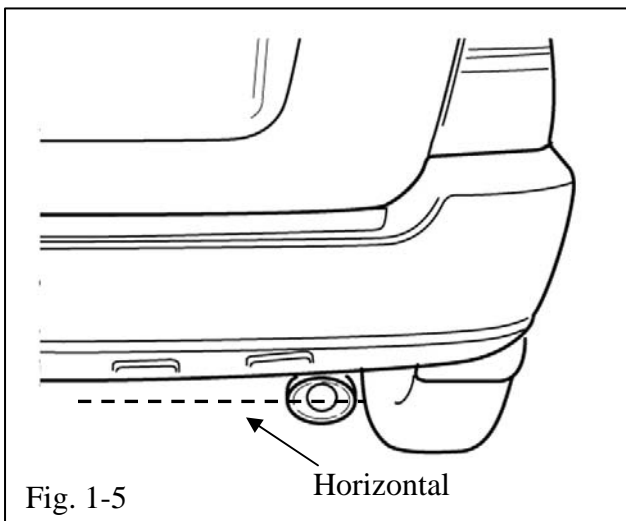

Fig. 1-5
- (f) Once the tip is positioned correctly and the alignment seems accurate, tighten the clamp nut making sure the clamp remains in the proper position. (Fig.1-5 & 1-6)